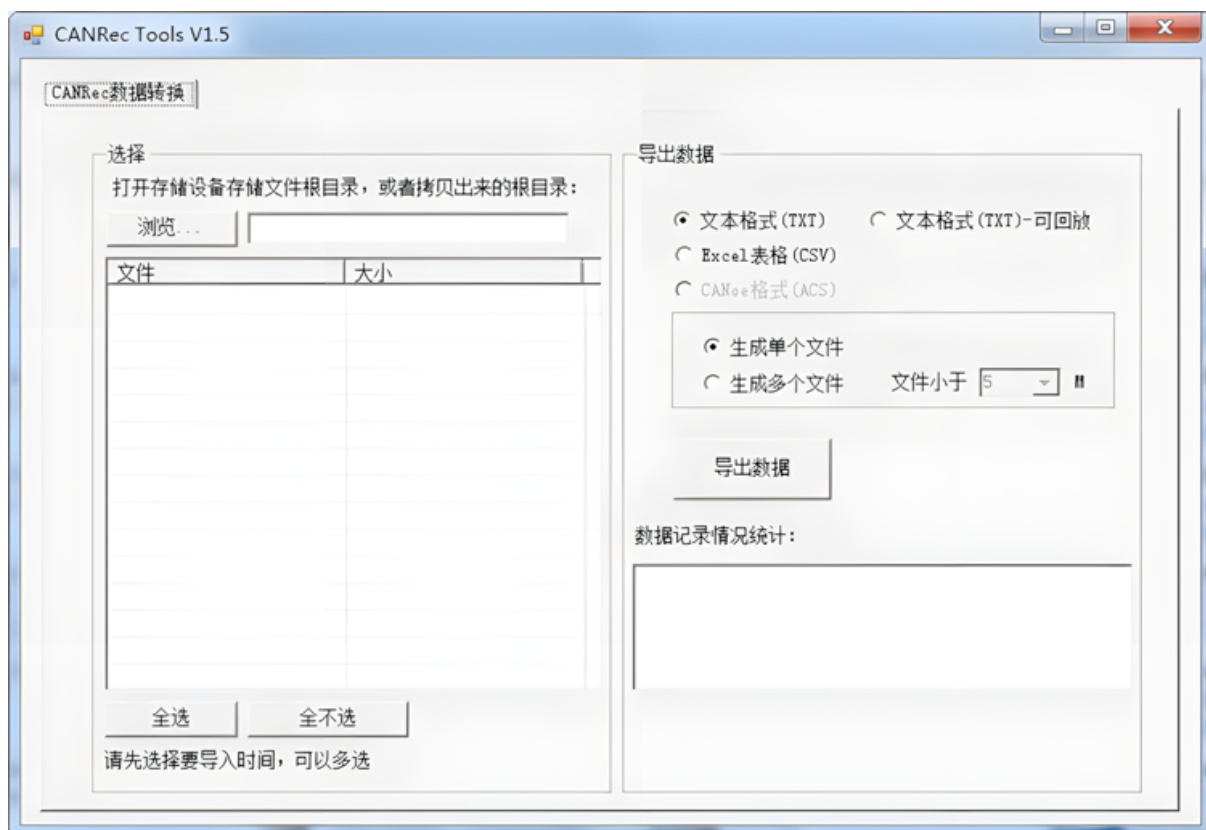

Figure 4.4 CANRecToolsV1.5 software interface
1. Open the CANRecToolsV1.5 software on the CD. The software interface is shown in Figure 4.4.